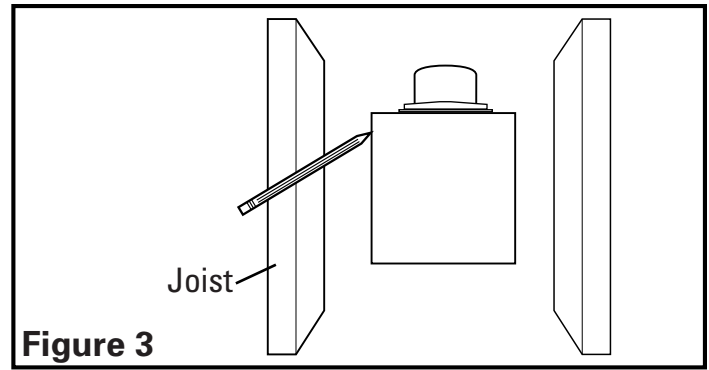

Figure 3
1. Set housing in position between the joist and trace an outline onto the ceiling material (**Figure 3**). Set housing aside and cut opening, being careful not to cut or damage any electrical or other hidden utilities. Install the rails on the housing and position the housing in the previously cut hole so that it is flush with the finished ceiling. Secure the ends of the rails to the joists (**Figure 3**).